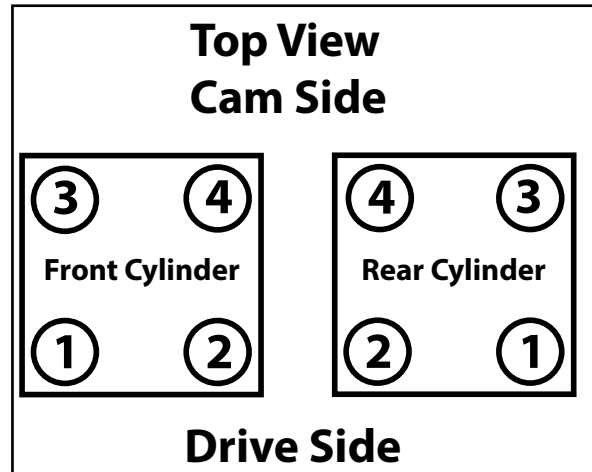

Figure 6
- g. **Important! In order to properly seal the head gasket, the head bolts must be torqued in the sequence shown in the next step, fully loosened, then torqued again a 2nd time.** Follow the head tightening sequence in the next step then fully loosening the head bolts ¼ turn at a time in the reverse sequence shown in **Figure 6** until fully loose. Repeat the tightening sequence in *step h* below, a second time.
- i. Tighten each bolt finger tight using the sequence in **Figure 6**.